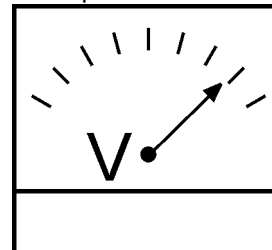

Figure 28. Voltmeter
3. The generator's AC voltmeter (Figure 28) will display the generator's output in **VOLTS**.